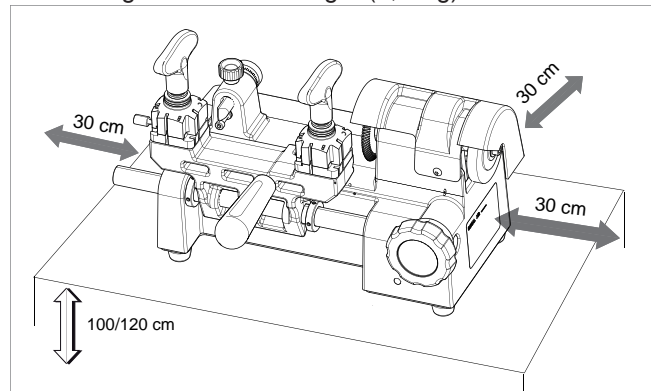

Fig. 9
- it is important to leave clearance of at least 30cm (12") behind the machine and on each side to ensure proper ventilation (Fig. 9).